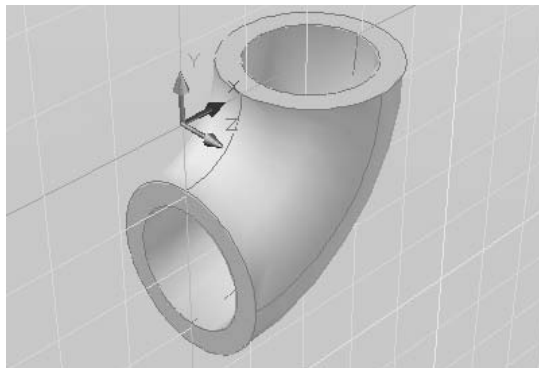

Figure 26-118 Resulting sweep feature
6. Choose **View > Views > Views > SE isometric** from the **Ribbon** and change the **UCS** to **World** using the ViewCube. Also, choose **Home > View > Visual Styles > Realistic** from the **Ribbon**. The resulting model should look similar to the one shown in Figure 26-118.